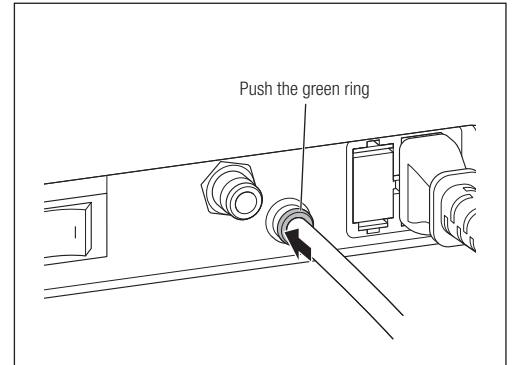

Fig. 11
- 4) To remove the Water Tube from the Water Tube Connector, pull the Water Tube out while pushing the green ring toward the Control Unit (Fig. 11).